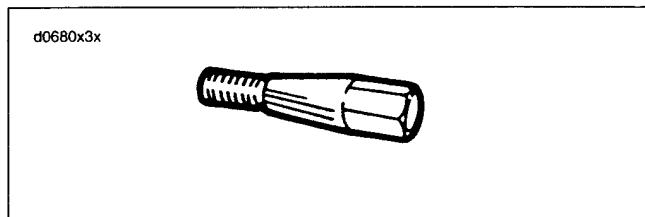

Figure 3-70. Alignment Tool HD-33443
- a. Loosely insert alignment tools (see Figure 3-70.) into holes #1 and #2.